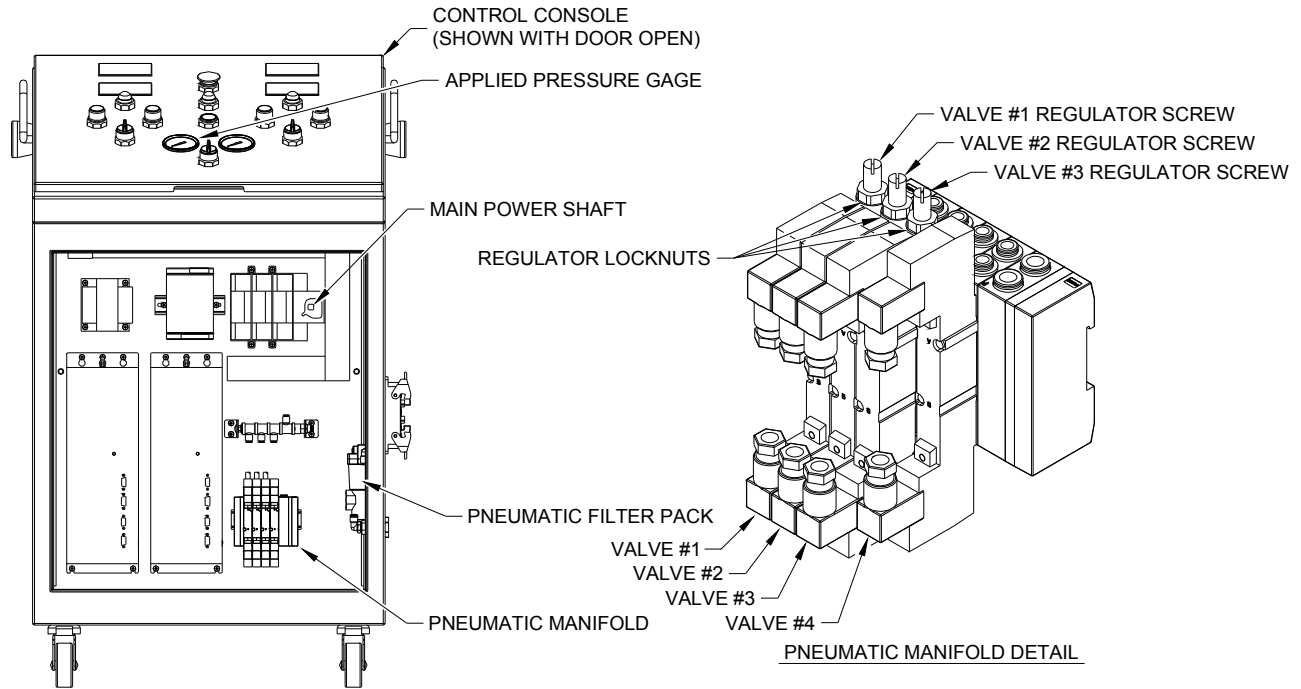

Figure 10: Setting Applied Force
7. Locate the Pneumatic Manifold as shown in Figure 10. Red lights should be illuminated on Valves #3 and #4 (RETRACT position). (See Figure 10)
The Control Console is equipped with a supplementary Pneumatic Filter Pack to condition the incoming air supply. This Pneumatic Filter Pack is provided to supplement the plant air filtration system. The Control Console requires 80 psi (5.5 Bar) minimum clean, dry, non-lubricated air. The Pneumatic Filter Pack is located inside the Control Console shown in Figure 10. **Any service of the Pneumatic Filter Pack must be done with the incoming electrical power and air supply disconnected from the Control Console.** The Control Umbilical should also be disconnected. The Pneumatic Filter Pack consists of an SMC mist separator (AMG150-01B-R) and air filter (AF20-01-C). The sight glass of the mist separator should be periodically checked. If liquid is seen in the sight glass, the liquid is drained by opening the fitting on the bottom of the unit. The filter element (PushCorp part no. PAR03567, SMC part no. AF20P-060S) located in the SMC air filter should be changed every two (2) years or as needed.